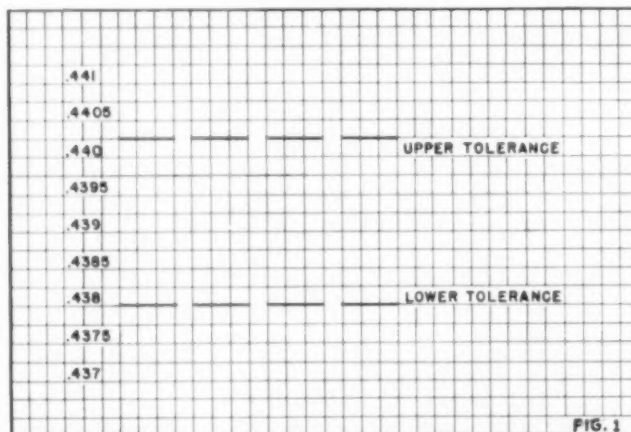
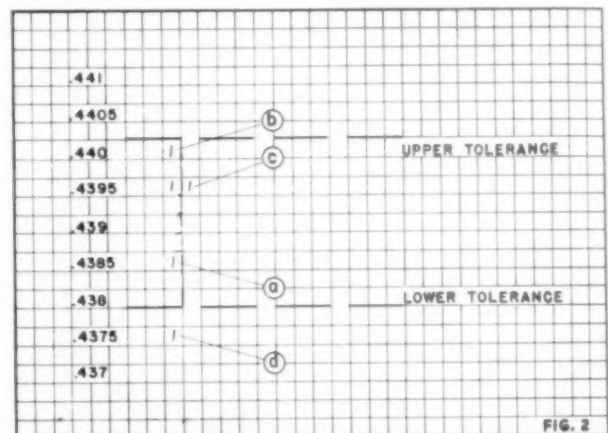
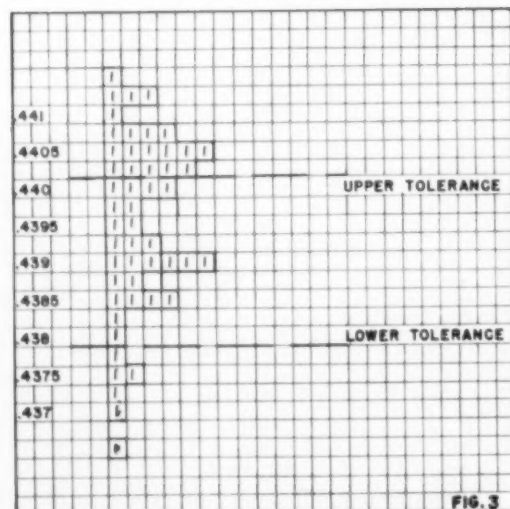
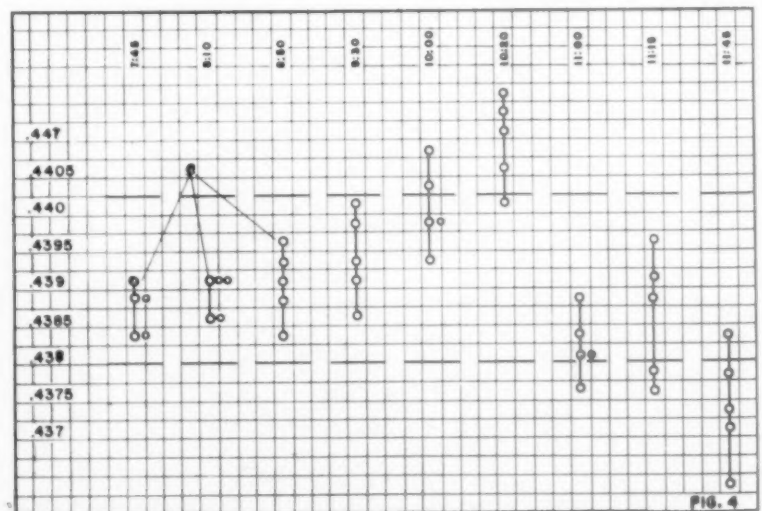

FIG. 1
FIG. 2
FIG. 3
FIG. 4
Then, lay out a row of dimensional figures on a piece of graph or coordinate paper and draw in tolerance limit lines as shown in Fig. 1. As each piece from the fifty piece sample is measured, the exact measurement is tallied in the proper row in the manner indicated in Fig. 2. The first piece measured might have been .4385", for instance, and would be tallied as shown at *a* in Fig. 2. If the next piece measured .440", its tally would appear as at *b*. Where one piece might measure .4395" and then another measure the same, for further example, they would be tallied as at *c* in Fig. 2. Then a .4375" shaft as at *d*. And so on.
Continuing the measuring and tallying process, a diagram like that shown in Fig. 3 is secured, each tally mark representing the exact measurement of each one of the fifty pieces in the sample of screw machine work.
Such a set of tallies illustrates what is known in statistical language as a Frequency Distribution. A frequency distribution is an arrangement or classification of observations or measurements or data in the order of or frequency of their occurrence. When a set of tallies is outlined as in Fig. 3, the outline is known as a Histogram.
Just a glance at Fig. 3 tells a lot about the performance of the particular screw machine. Something in the neighborhood of 40% of the work is oversize and 10% is undersize—a total of 50% out of tolerance assuming that the sample is fairly representative of the morning's work. The screw machine was working, in fact, between tolerance limits of $\pm .003$ " (from .442" to .436") rather than within the specified $.439" \pm .001$ ".
The diagram of Fig. 3 provides evidence that there is too much variation among the screw machine blanks being supplied to the centerless grinder to hold successfully within the specifications of .4375" and .4377". There should be considerable doubt that even an intermediate rough grinding operation could overcome the sort of trouble so adequately illustrated. The major solution of the problem, therefore, is to cure the trouble at the screw machine.
Suppose, then, that another quality control engineer's graphic technique is tried. A new sheet of graph paper is arranged as shown in Fig. 1. This time, however, 5 pieces are taken directly from the screw machine, in succession as they are turned and cut off. The diameter of each piece is measured.
Rather than tally the measurements (as in Fig. 2), they are put down graphically in the form of dots in the manner shown at *e* in Fig. 4, each dot representing the measurement of a piece. Fifteen minutes or half hour later, 5 more successive pieces are taken directly from the machine and their dimensional variations recorded by dots on the chart. This system is kept up for several hours, perhaps for half a day.
Now we have another picture, in Fig. 4, of the sort of work the screw machine is doing. If the picture were condensed—i.e., if the dots were pushed together—the result would look considerably like the histogram in Fig. 3. However, Fig. 4 offers more or at least a different type of information than the histogram. It spreads the job out over a period of time. The ups and downs of the job are mapped. It forecasts impending out-of-tolerance work.
Follow along the chart of Fig. 4 to the 9:30 sample. The operator should have checked his work more carefully—certainly by 10:00 o'clock—and should have made the adjustment then that he put off until 10:30. Then he carried his adjustment too far and, for the next hour, produced undersize work or scrap as indicated in the chart, Fig. 4. Furthermore, the machine would have produced better work if the range—i.e., the between-piece spread of the work—had been kept consistently compact as at the start of the morning rather than as at noon.
The disadvantage of the progressive diagram of Fig. 4
over the histogram of Fig. 3 is that a half day, for instance, was more or less occupied in securing the data for Fig. 4, whereas a sample could be taken, the pieces measured and a frequency diagram or histogram could all have been made together in a short period of time.
The histogram and the dot chart (Figs. 3 and 4) offer a graphic illustration of what the machine is doing, at least during one morning. The same sort of analyses can be repeated during other production periods until the investigator is satisfied that he has a complete and typical picture of the condition of the average output. It is like drawing a street map or making a floor plan; much is then seen that was not apparent before and some direction is secured as to how or where to proceed.
Following on in the same shop several days later, after the mechanical causes of trouble had been ferretted out, a histogram made of a sample of the machine's output then showed a relation of the work in respect to the tolerances, as illustrated in Fig. 5. Compare this distribution with the one shown previously in Fig. 3.
(6) Where an even more detailed study of a production run is desired, take samples or groups of observations, 5 at a time, at regular and frequent intervals (every quarter hour, say) and use the dot chart technique (Fig. 4 in the preceding) for the graphic analysis.
One disadvantage of the sliding punch is the increased difficulty in attempting to feed a short length of material into the tools. In order to overcome this, a ring is placed on the smaller diameter of the sleeve before it is assembled with the retainer (Fig. 4). This reduces the length of the sleeve travel, which is permissible only if this reduced stroke can handle the volume of material needed. The ring can also be made of such a width to prevent any movement of the sleeve thus converting the sliding punch to a solid type punch.